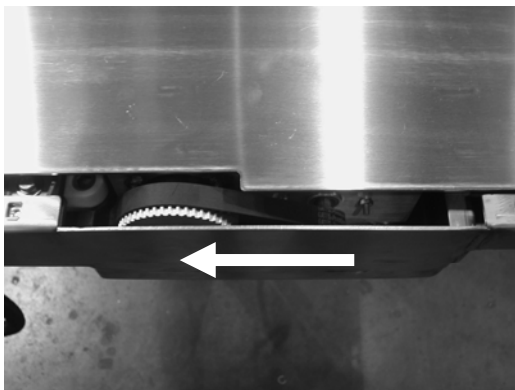

FIGURE 2-4: TIMING BELT
- 2) Refer to **Figure 2-4**. Manually turn timing belt counterclockwise (when standing at rear of ramp) to partially open hinged floor.